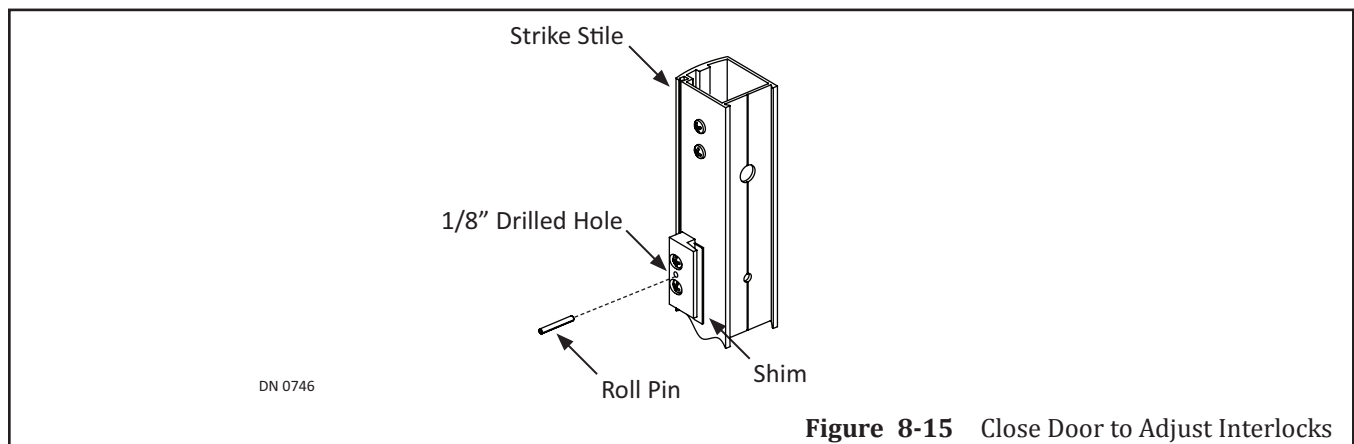

**Figure 8-13** Insert (1+) Shim under Interlock
1. Obtain (1) package containing Shim and Roll Pins.
2. Slide (1+) shim under the Interlock until proper engagement can be obtained. Please see Figure 8-13.